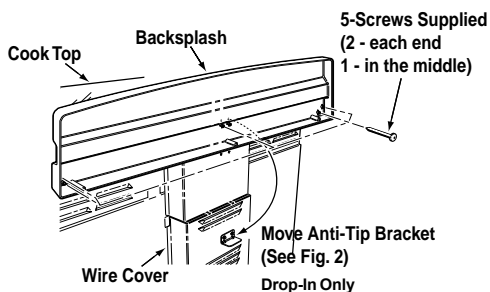

Fig. 1
- A2** Attach the assembly to rear of the range to the five holes above the louvers using the 5 screws located in the pack. See Figure 1